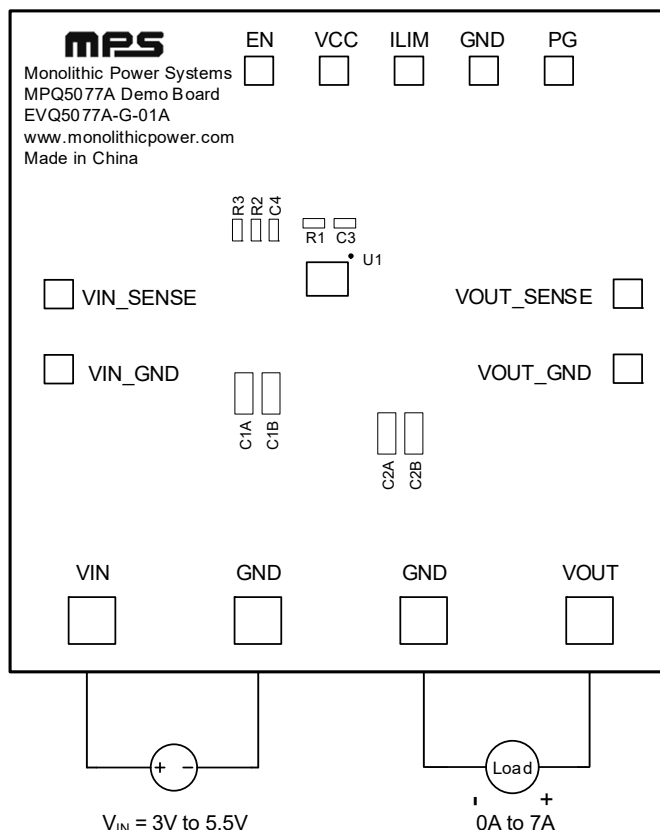

Figure 1: Measurement Equipment Set-Up ($V_{IN} = 3V$ to $5.5V$)
- To use the enable (EN) function, apply a digital input to the EN pin. Drive EN above 2.6V to turn the regulator on; drive EN below 0.4V to turn the regulator off.
- If V_{IN} is between 3V and 5.5V, one input supply is needed. Figure 1 shows this configuration.